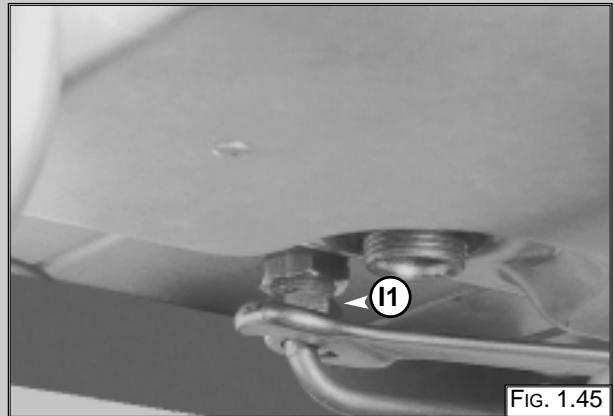

FIG. 1.45
2. Release nut "I1" (FIG. 1.45);